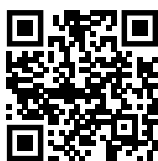

Fig. 184
- Avaa Liebherr SmartMonitoring Dashboard. (katso Fig. 184)